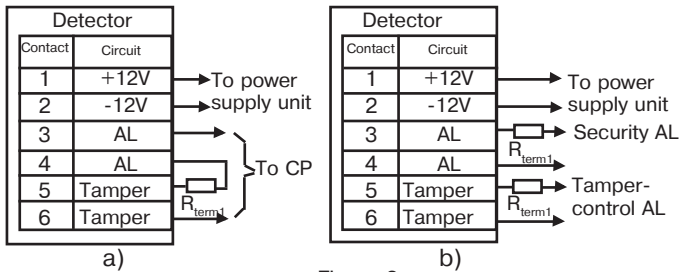

Figure 3
- Figure 3 a) for connection to single alarm loop;
- Figure 3 b) with tamper control connection to a singular loop.